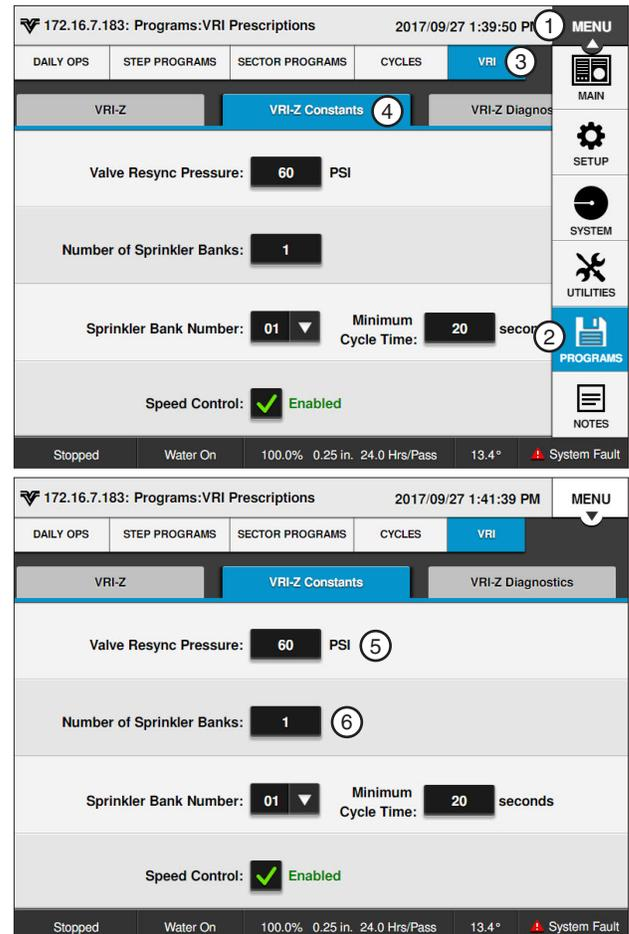

Figure 165-1 1. Menu 4. VRI-Z Constants
1. Push **Menu**, **Programs**, **VRI** and **VRI-Z Constants** to display the VRI-Z Constants screen. Refer to Figure 165-1.
The **Number of Sprinkler Banks** field displays the current number of sprinkler banks. Refer to Figure 165-1.